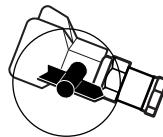

Figure 10 - Tip in Cleaning Position
- Rotate Spray Tip to the Cleaning Position (See Figure 10).